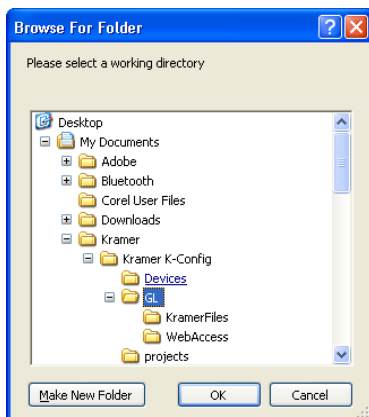

Figure 5: Change Working Directory Window
5. Select or create a new working directory³ (see Figure 5).